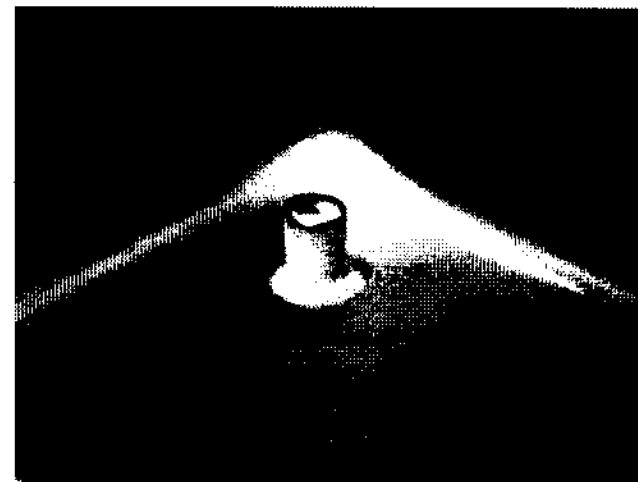

Fig. 20
14. The remainder of the machine including the mix pan, the mixout probe mounted in the bottom of the mix pan (see Fig. 20), and the freezing cylinder must be cleaned in place using a mild detergent solution.